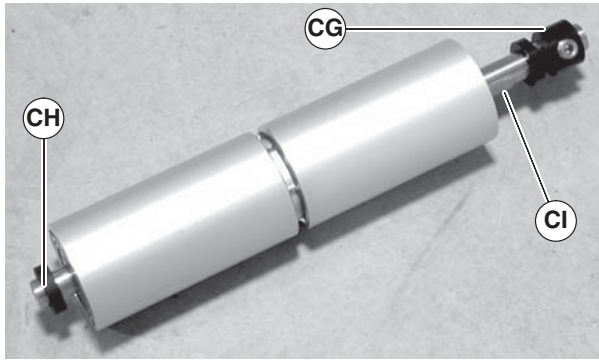

Figure 67
8. Remove the tension pulley locking collar (Figure 67, item CG), spacer (CH) and pulley shaft (CI) from the roller pulley shaft assembly.